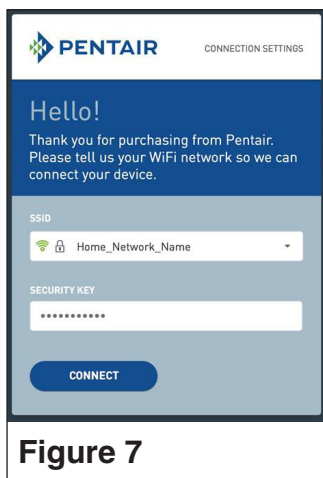

Figure 7
6. At the pairing page, select your home router from the drop down SSID list and enter your router password into the security key field. See **Figure 7**.